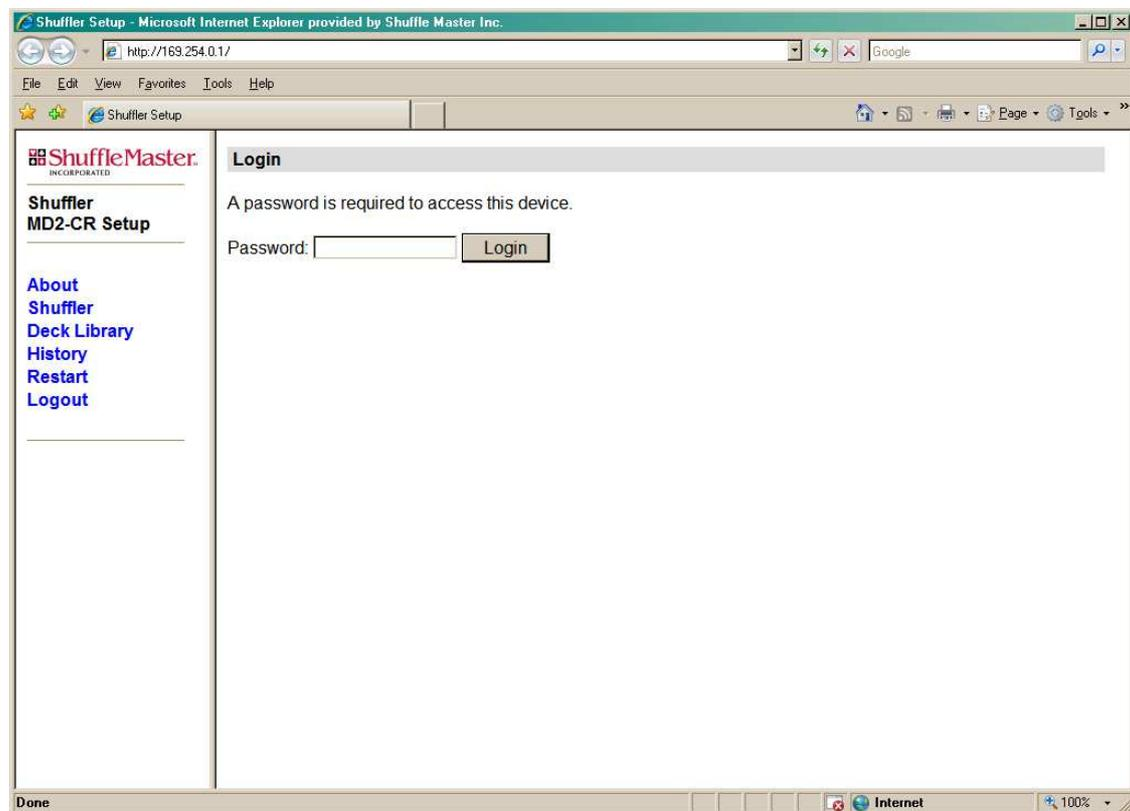

Figure 5-3. Login Web Page
- a. Once the computer has rebooted, run Microsoft Internet Explorer or alternate web browser. Type “http://169.254.0.1” as the web address. Press ‘Enter’. You should see the Login web page in Figure 5-3.
Follow the procedures described above to access the shuffler web pages. When successful, you will see the Login web page in Figure 5-3.
To logout of the web browser, click on “Logout” on the left side of the web page. You will be returned to the Login web page (Figure 5-3).